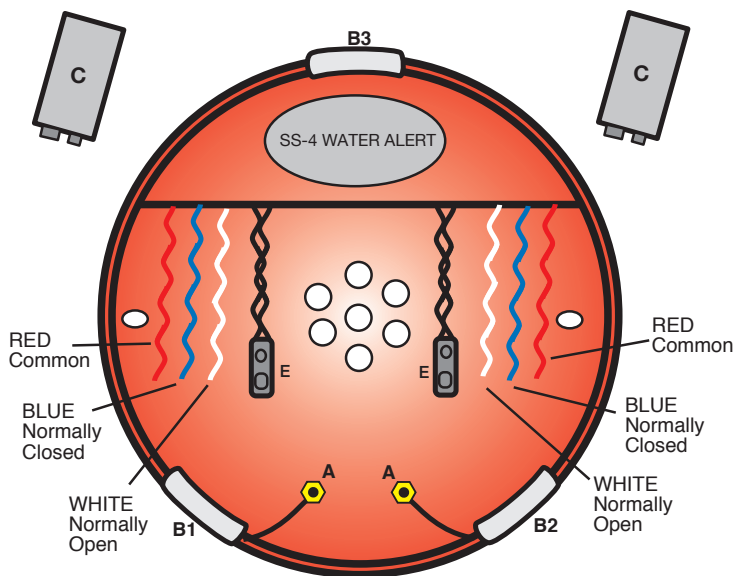

FIGURE 2
1. To adjust sensor height, hold straight edge across pads (B1 & B2). Turn sensors (A & A) out or until distance to straight edge equals the desired water detection level. See Figure 2.